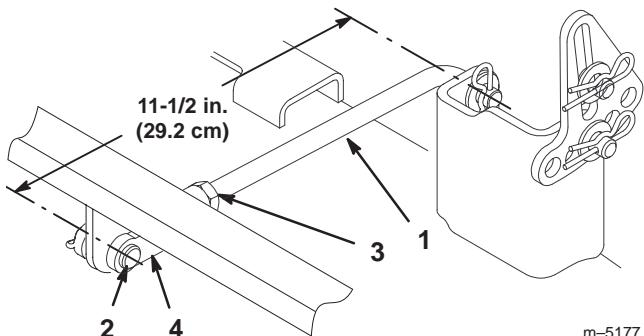

Figure 40
4. Measure the length of the rear trunnion rod (Fig. 40). If the rod length is not 11-1/2 in. (29.2 cm), remove the clevis pin and cotter pin from the end of the rod (Fig. 40), loosen the jam nut, and turn the yoke until the 11-1/2 in. (29.3 cm) dimension is obtained. Then secure the yoke with the clevis pin and cotter pin. Repeat this procedure on the opposite side of the mower.
- When the front-to-rear blade slope is correct, tighten the jam nuts (Fig. 40 and 42).